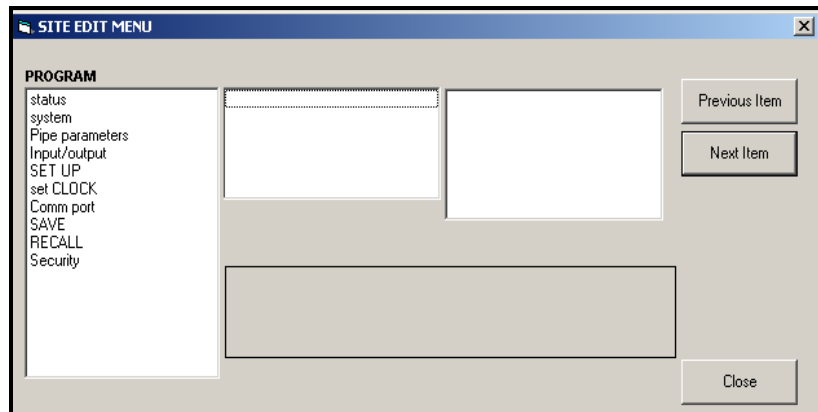

Figure F-20: The *Site Edit Menu* Window
- To open a particular menu, double-click on that menu on the tree. For example, if you double-click on the Site Edit Menu, a window opens similar to Figure F-20 below.